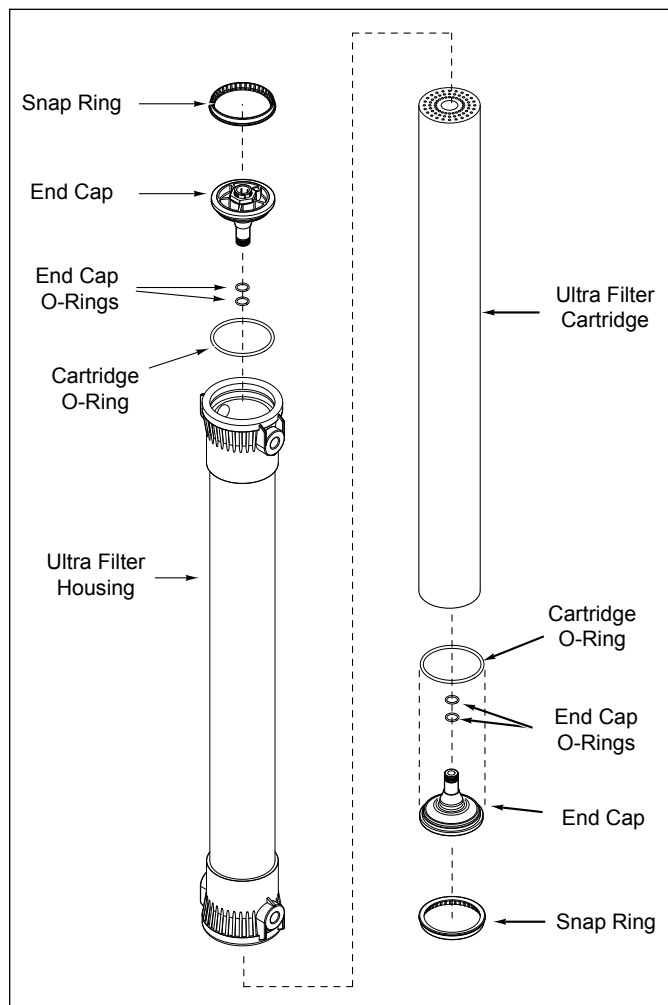

Figure 8. Replacing the Ultra Filter Cartridge
6. Remove the Snap Ring (Figure 8) from the Ultra Filter Housing. Grab the raised lug with a pair of pliers and pull towards the center of the End Cap and away. The Snap Ring should lift out of its groove.
7. Remove the End Cap, End Cap O-Ring, and Cartridge (Figure 8) from the housing.